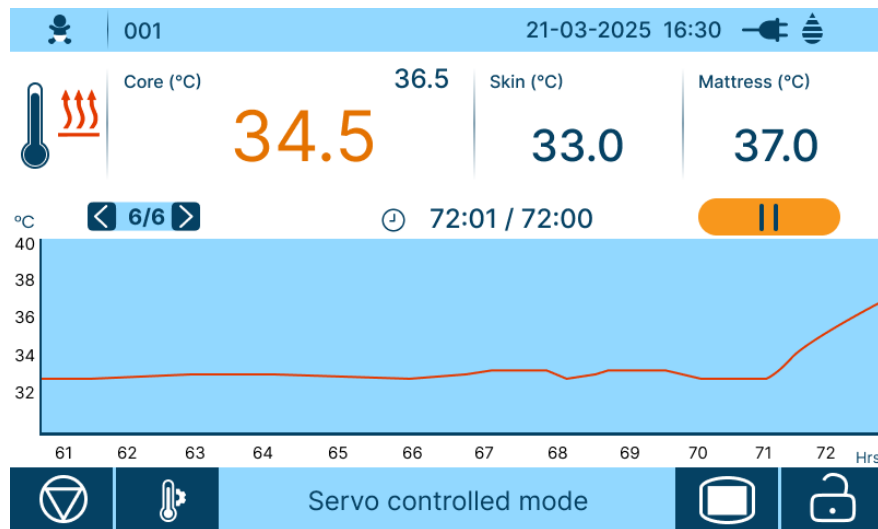

Figure 82: Page 6/6 of trends (**Servo controlled mode**)
- Therapy can be paused and resumed at any time. Refer to Figure 82, Figure 83 and Figure 84